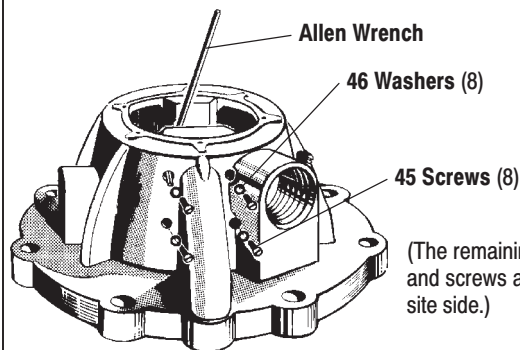

FIGURE 1
2. Remove the six (1) screws, releasing the (31) cap and (32) gasket.
3. Loosen the eight (45) screws (which hold the (33) valve plate and pin assembly, (30) valve guide, two (4) valve guides and the (5) valve plate) until the (30) valve guide and the two (4) valve guides can be removed by pulling upward (see figures 1 and 2).
4. Remove the eight (45) screws and the eight (46) washers from the 8" air motor by pressure outward with a small allen wrench (see figures 1 and 2).